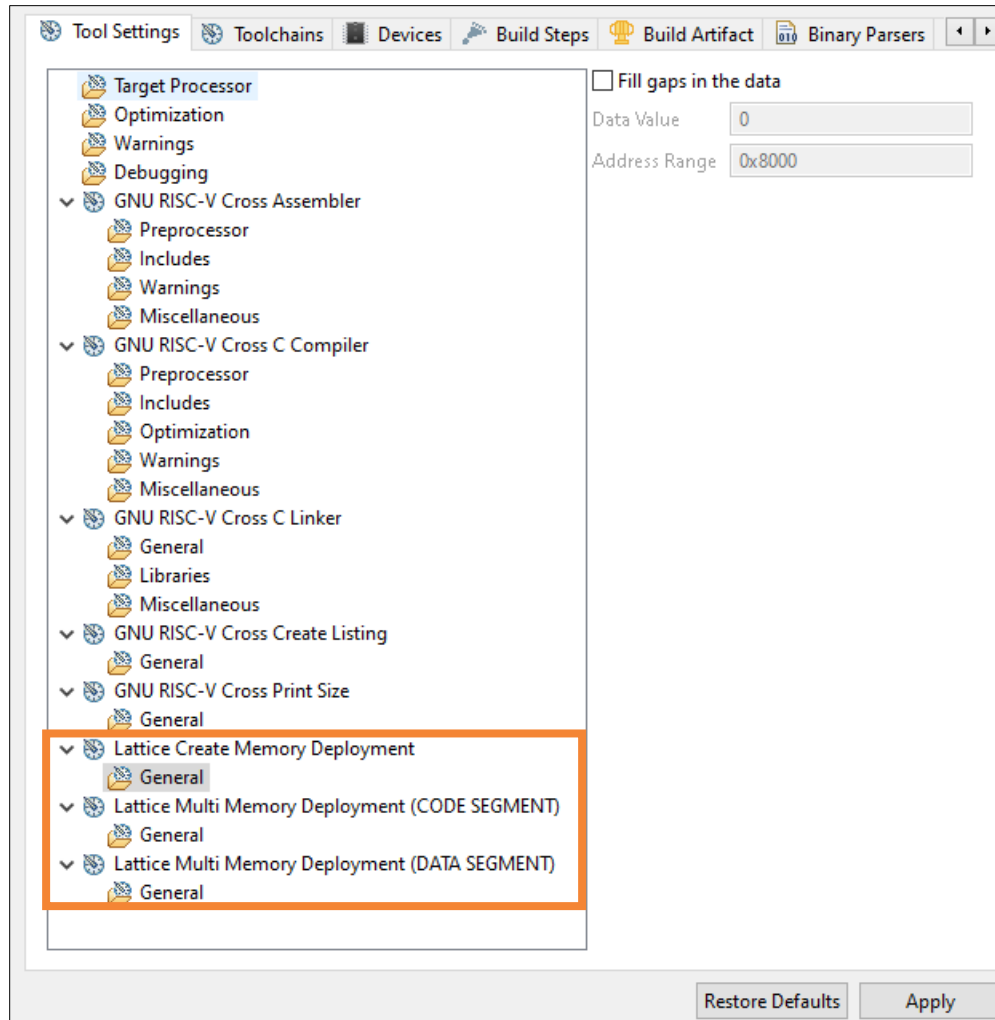

Figure A.5. Tool Settings Tab of C/C++ Build Settings
- Go back to the **Tool Settings** tab. The relevant Lattice memory deployment tools can be found (Figure A.5). Customize the tool options as needed.